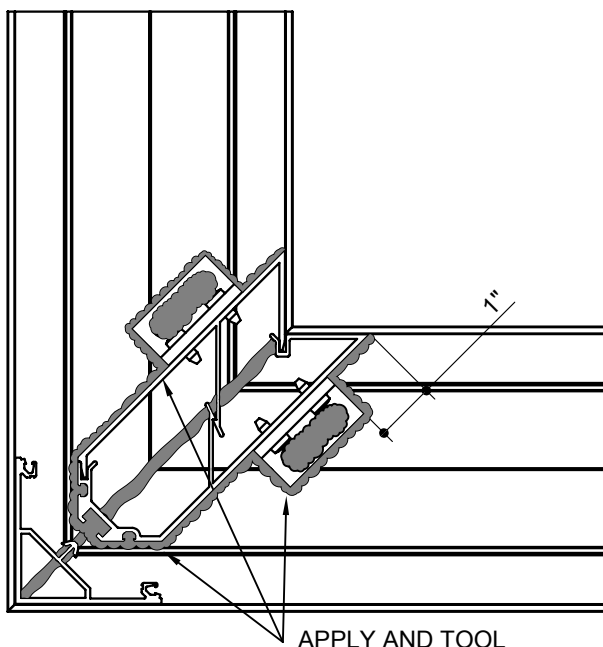

FIGURE 2
- STEP D:** Locate angle clips at bottom of each side of dart corner mullion at dimension shown. Match drill holes and fasten with supplied screws. (Figure 2)
- STEP E:** Apply sealant to corner where the mullion meets the receptor. Seal over heads of angle clip fasteners. Tool all sealant. (Figure 2 and 3)